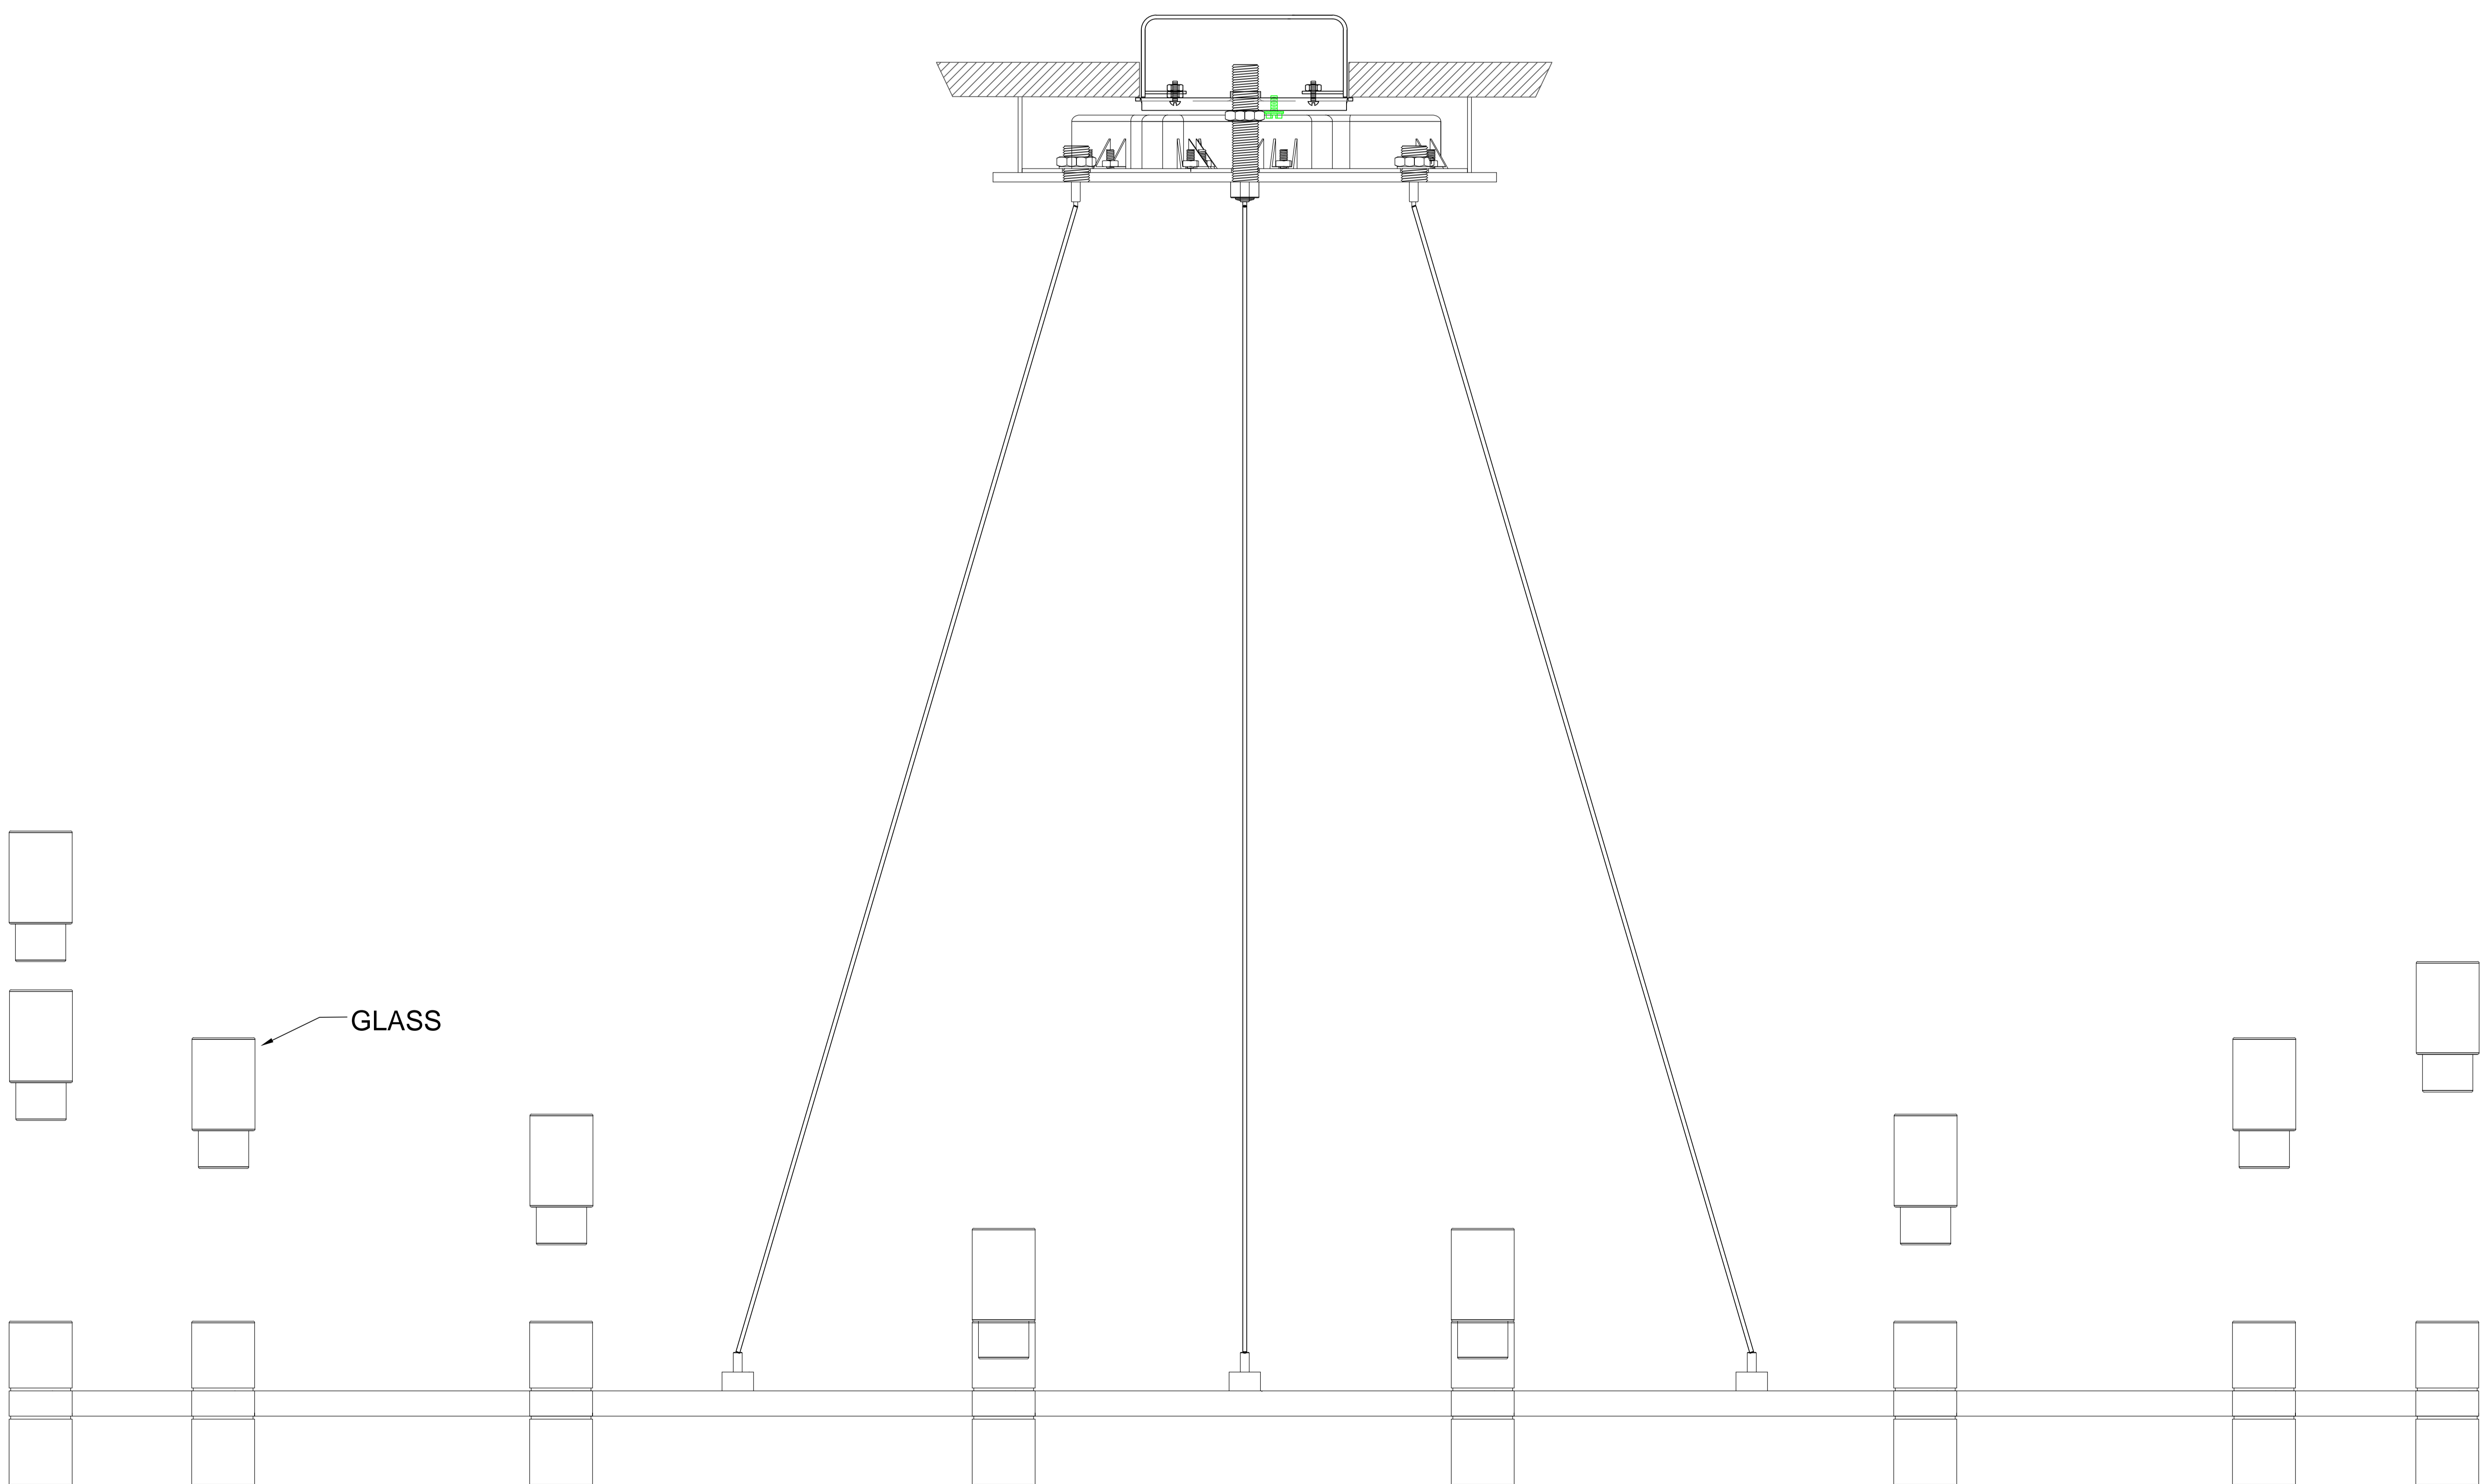

FIGURE-07
16. To level the fixture or change the drop height based on your desire height, push the tab down on the grip lock either pull or push the aircraft cable. Repeat this to all aircraft and coaxial cable until the fixture is level and with the desired height. (Refer to Figure-07)